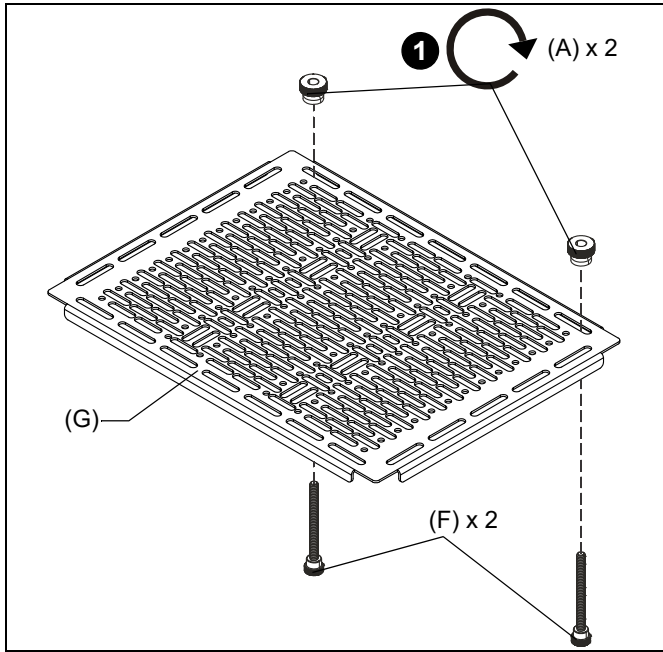

Figure 4
1. Attach two thumb screws (F) to two thumb nuts (A) through corners of the mounting plate (G). (See Figure 4)
**NOTE:** The thumb screws and thumb nuts should be attached to the corners on the side of the mounting plate (G) opposite where the mounting bracket (H) will be attached.